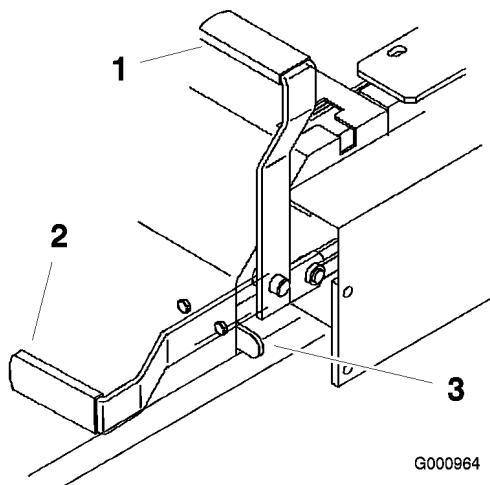

Figure 11
2. Pull up and back on the parking brake lever to set the parking brake (Figure 11). The parking brake lever should stay firmly in the engaged position.
Push forward and down on the parking brake lever to release the parking brake (Figure 11). The parking brake is disengaged and the lever will rest against the brake stop.